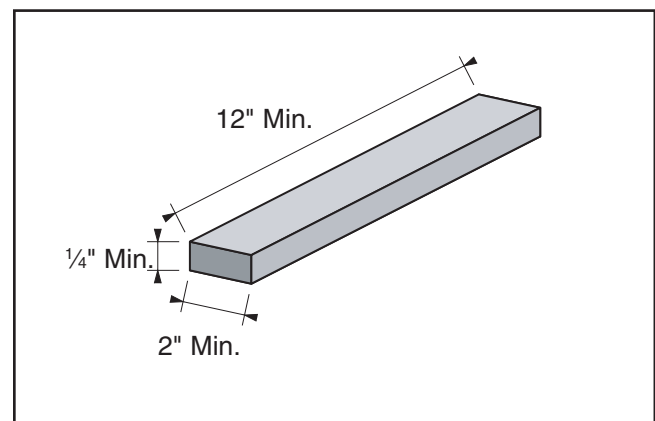

Figure 37. Minimum dimensions for sanding.
- DO NOT sand boards less than 12" long, 2" wide and 1/4" thick to prevent damage to the workpiece and the planer/sander (see **Figure 37**).